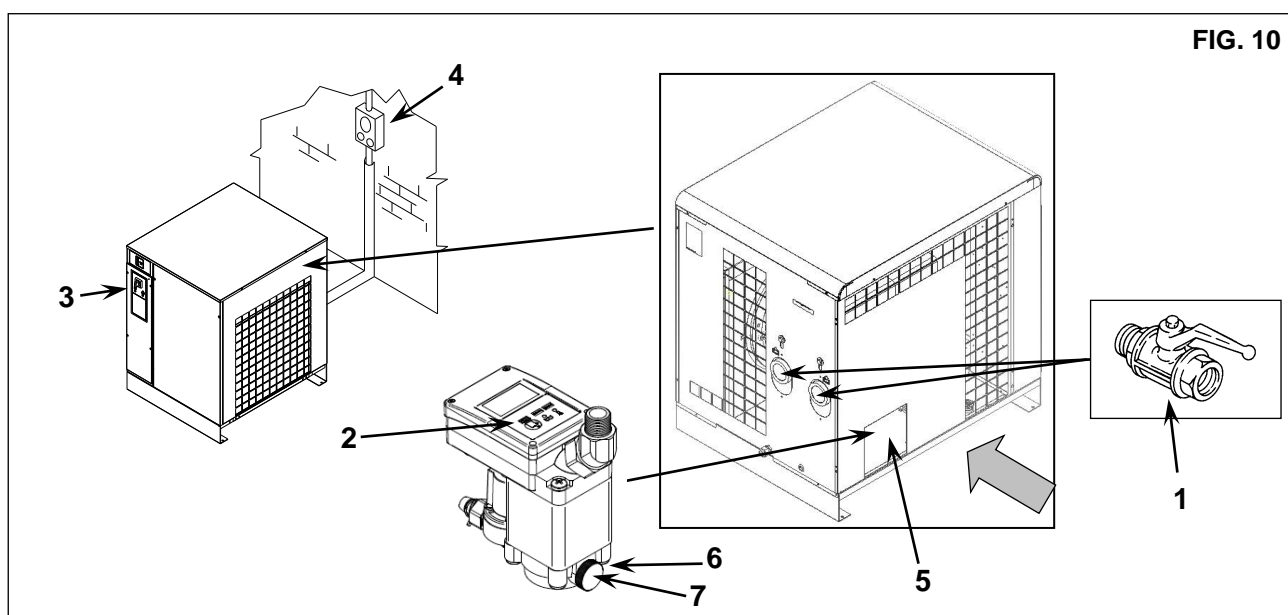

FIG. 10
#### 16.2 CLEANING OF THE AUTOMATIC CONDENSATE DISCHARGER FILTER (Fig. 10)
- Close the cock Ref. 1 Fig. 10
- Release the pressure in the dryer by pressing the condensate drain "TEST" pushbutton located on the steam trap Ref. 2 Fig. 10.
- Switch off the machine. Turn the switch in position STOP Ref. 3 Fig. 10
- Turn on the supply automatic differential switch Ref. 4 Fig. 10
**16.3 CLEANING THE CONDENSER (Fig. 10)**
- To use the hole Ref. 5 Fig. 10
- Clean the condenser fins Ref. 1 with compressed air (Fig. 10) **DO NOT USE WATER OR SOLVENTS**
- Close the panels Ref. 5 Fig. 10